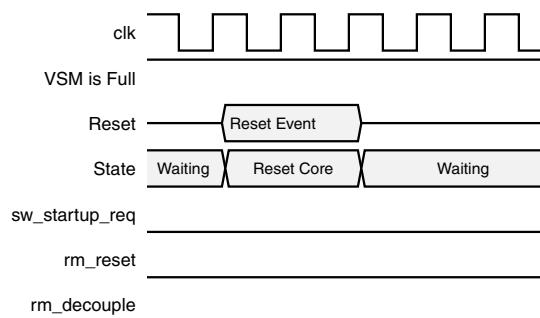

Figure 3-18: `vsm_<name>_rm_decouple` during a core reset while the Virtual Socket Manager is full. (Optional Reconfigurable Module startup steps are disabled.)
2. If the Virtual Socket was full before reset then `vsm_<name>_rm_shutdown_req` will be deasserted. See Figure 3-15 and Figure 3-18.
Figure 3-18 shows a full Virtual Socket Manager (`vsm_<name>_rm_decouple = 0`) during a core reset.